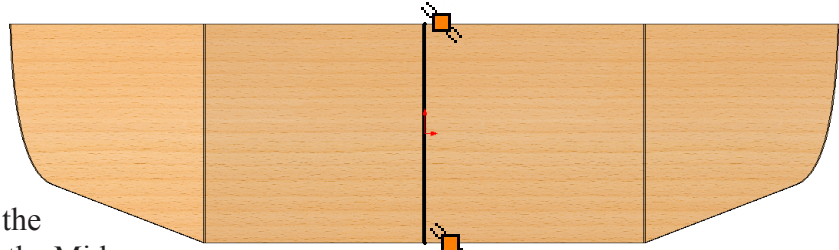

Fig. 29
Step 4. Draw the vertical line (centerline) down through the Origin, **Fig. 29**. Start from the Mid-point  of edge.